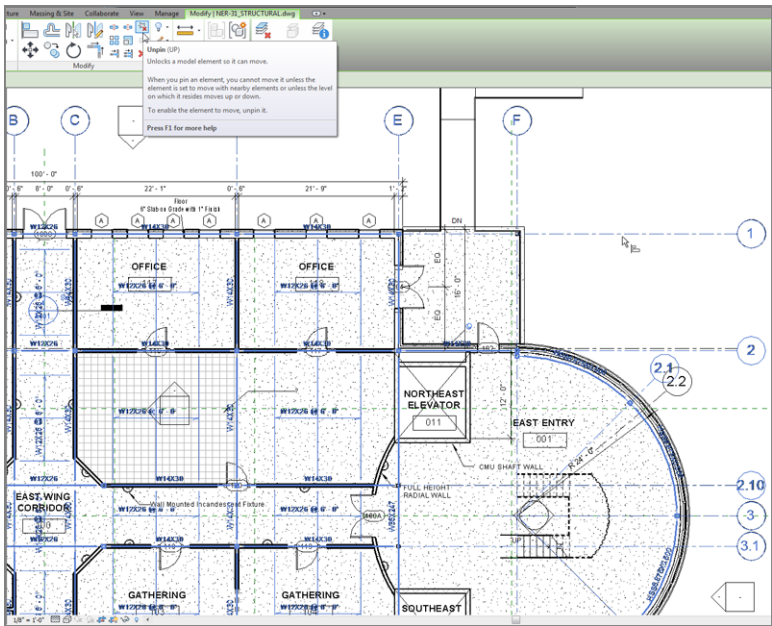

FIGURE 20.20: Unpinning and aligning the reference
- 16. On the View Control bar, click the Wireframe button so you can see the AutoCAD structure, as shown in Figure 20.20.
- 17. As you can see, the underlay isn't positioned correctly. Select the linked CAD, and unpin it (see Figure 20.20).